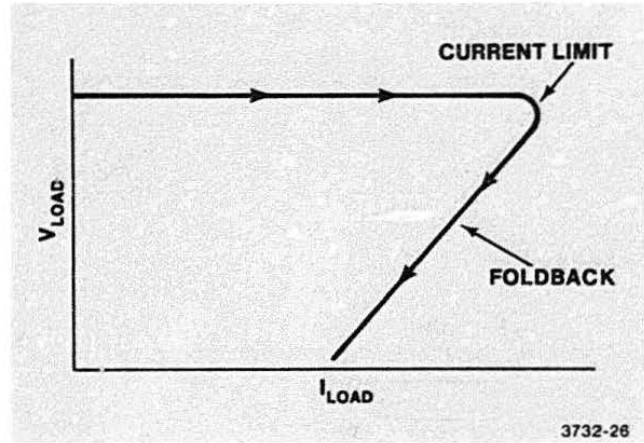

Figure 5-7. Foldback Current Limiting Characteristic.
- A foldback current limit. As the load resistance decreases, the supply provides additional current until the current limit is reached (Figure 5-7). At this point further reduction in load resistance causes less current to be sent to the load. The operating point moves down the characteristic curve as the load resistance is reduced to zero. This increasing sensitivity to current overload is called foldback current limiting. It reduces dissipation in the event of a short circuit. Increasing the load resistance reverses the process.